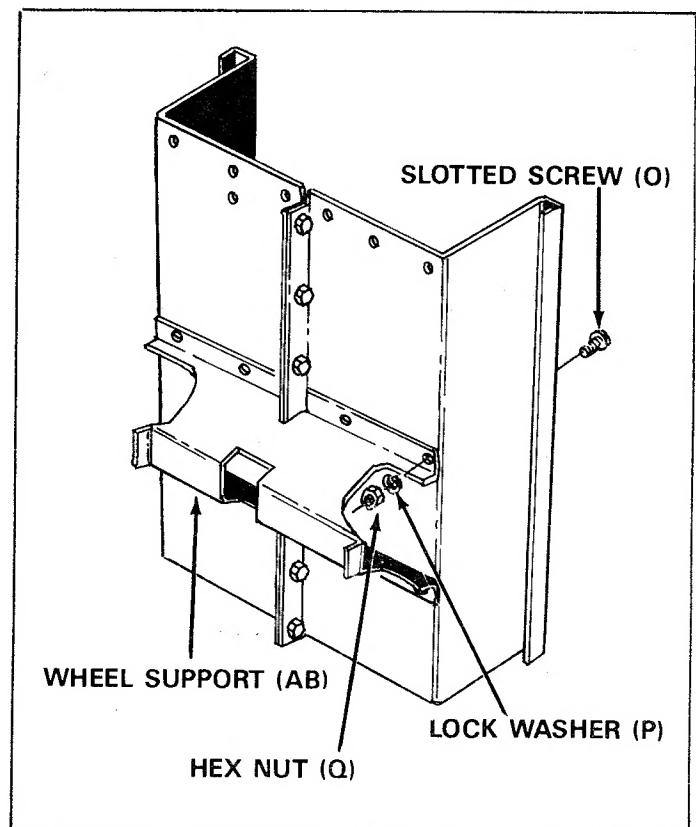

FIGURE 4
5. Position the wheel support (AB) in place on the bottom of the cart. See figure 4.
6. Assemble wheel support to cart with eight slotted head screws (O) lock washers (P) and hex nuts (Q). The heads of the screws should go to the inside of the cart bed as shown in figure 4. These screws should be tightened after they are all assembled.